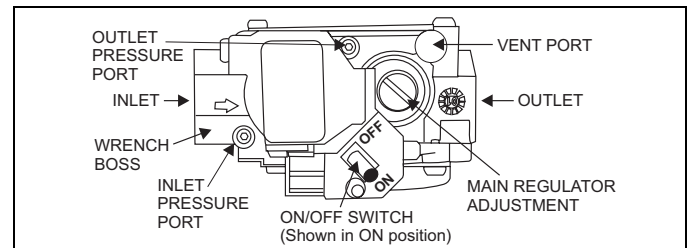

FIGURE 4: Gas Valve - White Rodgers
- Move gas control switch to the "OFF" position. Do not force. See Figure 4.
- Wait five (5) minutes to clear out any gas. If you then smell gas, STOP! Follow "B" in the safety information above. If you don't smell gas, go to next step.
- Move gas control switch to the "ON" position. Do not force. See Figure 4.
- After three (3) trials for ignition, if the appliance will not operate follow the instructions, "TO TURN OFF THE APPLIANCE" and call your service technician or gas supplier.
- Move gas control switch to the "OFF" position. See Figure 4.
2. Remove the blower and burner compartment access doors. Disconnect the gas supply piping at the union to permit removal of the entire burner and gas control assembly from the vestibule panel. Use the wrench boss on the gas valve when removing or installing this piping. See Figure 4.